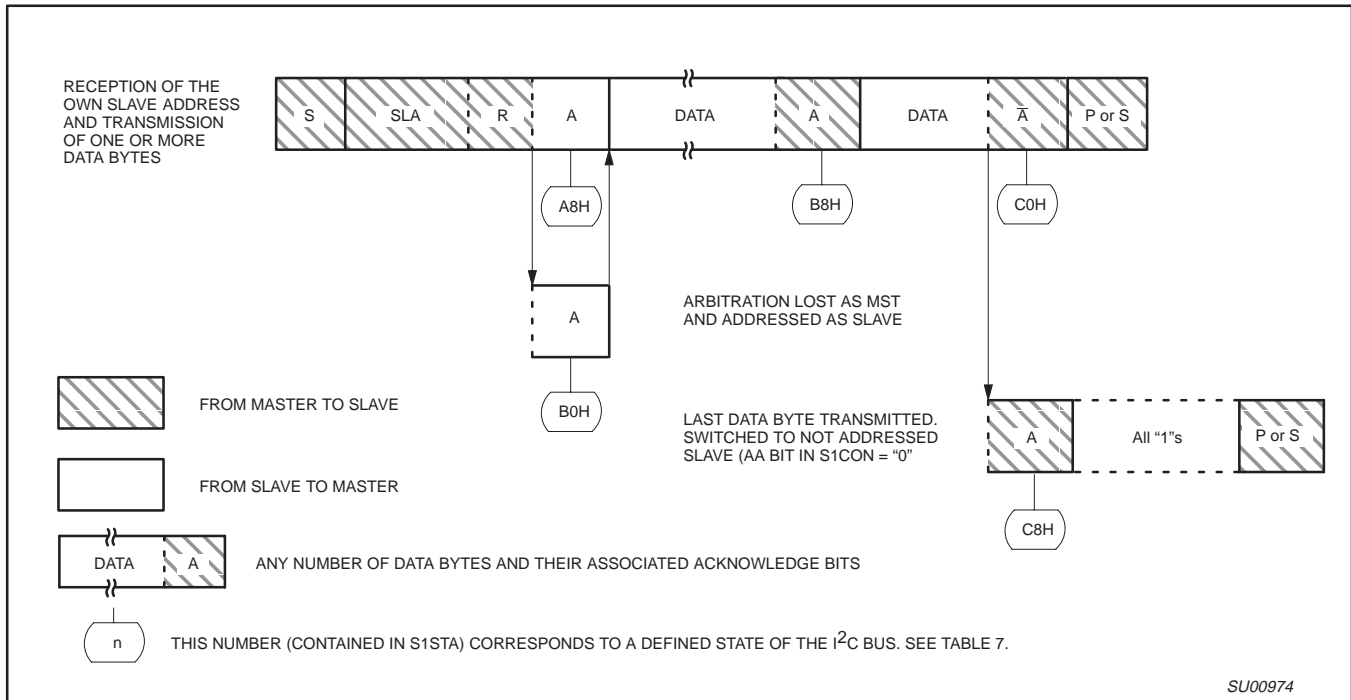

Figure 11. Format and States of the Slave Transmitter mode
In the Slave Transmitter mode, a number of data bytes are transmitted to a master receiver (see Figure 11). Data transfer is initialized as in the Slave Receiver mode. When S1ADR and S1CON have been initialized, SIO1 waits until it is addressed by its own slave address followed by the data direction bit which must be “1” (R) for SIO1 to operate in the Slave Transmitter mode. After its own slave address and the R bit have been received, the serial interrupt flag (SI) is set and a valid status code can be read from S1STA. This status code is used to vector to an interrupt service routine, and the appropriate action to be taken for each of these status codes is detailed in Table 7. The Slave Transmitter mode may also be entered if arbitration is lost while SIO1 is in the Master mode (see state B0H).